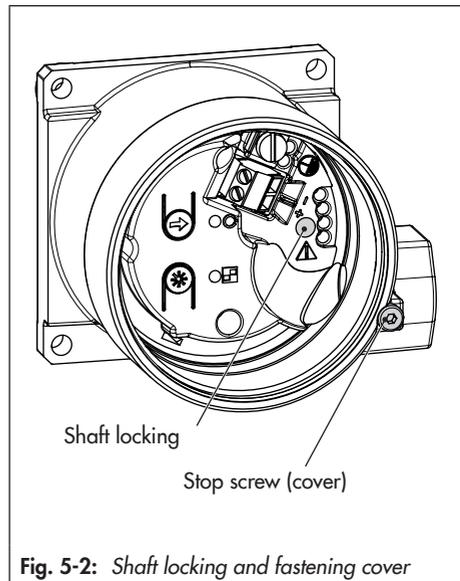

Fig. 5-2: Shaft locking and fastening cover
- ➔ See Fig. 5-2 and Fig. 5-3
- See Fig. 5-2 and Fig. 5-4
- Adjust the lever correspondingly and insert a thin screwdriver into the hole to lock the shaft in place (see Fig. 5-2). Keep the screwdriver in the hole to lock in position.
- Make sure that the lever (1) is parallel to the long side of the position transmitter when the rotary actuator is at half its angle of rotation.
2. Mount the housing (7) onto the rotary actuator. In case of VDI/VDE attachment, place spacers (8) underneath, if necessary.
3. For SAMSON Type 3278, VETEC S160 and VETEC R Rotary Actuators, screw the adapter (6) with the supplementary adapter (depending on the mounting kit) onto the free end of the shaft of the actuator. For VDI/VDE version, only place on the adapter (6) when it is required for the actuator size.
4. Stick adhesive label onto the coupling wheel (5) in such a manner that the yellow part of the sticker is visible in the window of the housing when the valve is OPEN. Adhesive labels with explanatory symbols are enclosed and can be stuck on the housing, if required.
5. Fasten coupling wheel (5) on the slotted actuator shaft or adapter (6) using screw (3) and disk spring (4).
6. Unscrew the standard follower pin from the position transmitter's M lever (1). Attach the follower pin (Ø5 mm) included in the mounting kit to pin position 90°.
7. Fasten the position transmitter onto the mounting plate (2).
8. Place the position transmitter together with the mounting plate on the housing (7) and screw it tight. Taking the actuator's direction of rotation into account, adjust lever (1) so that it engages in the correct slot with its follower pin: